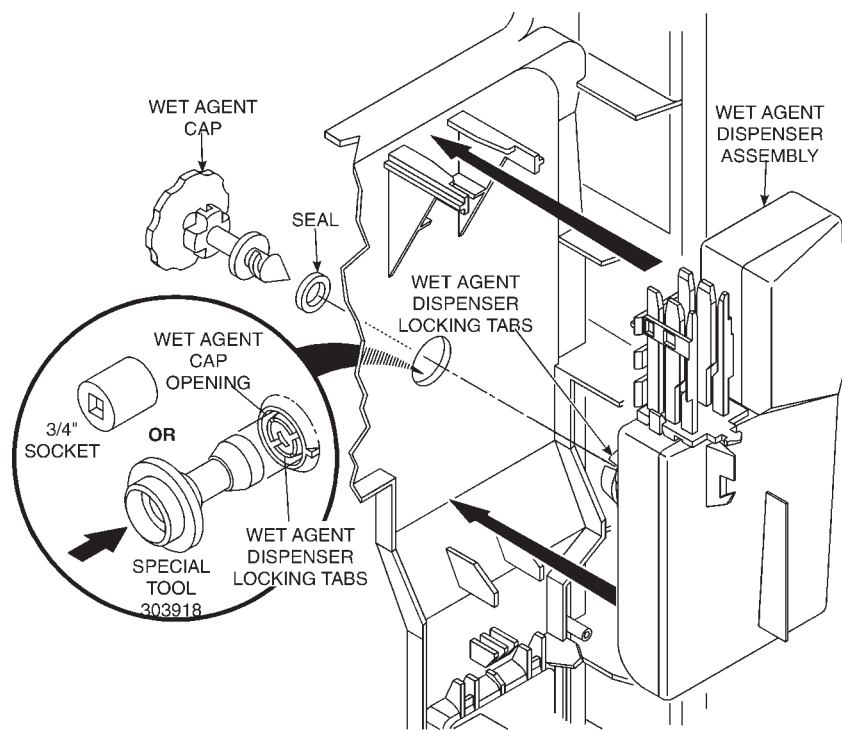

Fig. 3-12
3. Turn the wet agent cap and seal assembly counterclockwise and remove it. (Fig. 3-12)
5. Use Special Tool - Part No. 303918 or a  $\frac{3}{4}$ " socket to press over the attaching tabs in the wet agent cap opening. Remove wet agent dispenser assembly. (Fig. 3-12)
7. Press the wet agent dispenser assembly into position so the locking tabs engage the wet agent cap opening. No tool is needed for assembly. (*Fig. 3-12*)